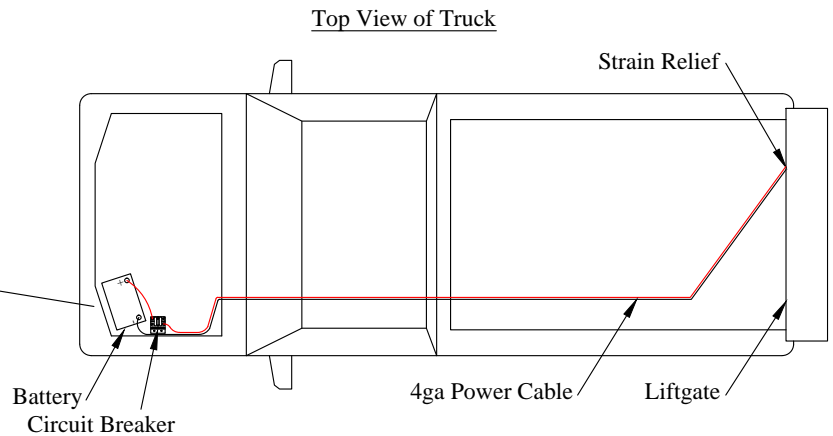

Figure 15: 2024-present electrical routing.
3. **Loosen** the strain relief on the back of the liftgate mainframe (Figure 15).